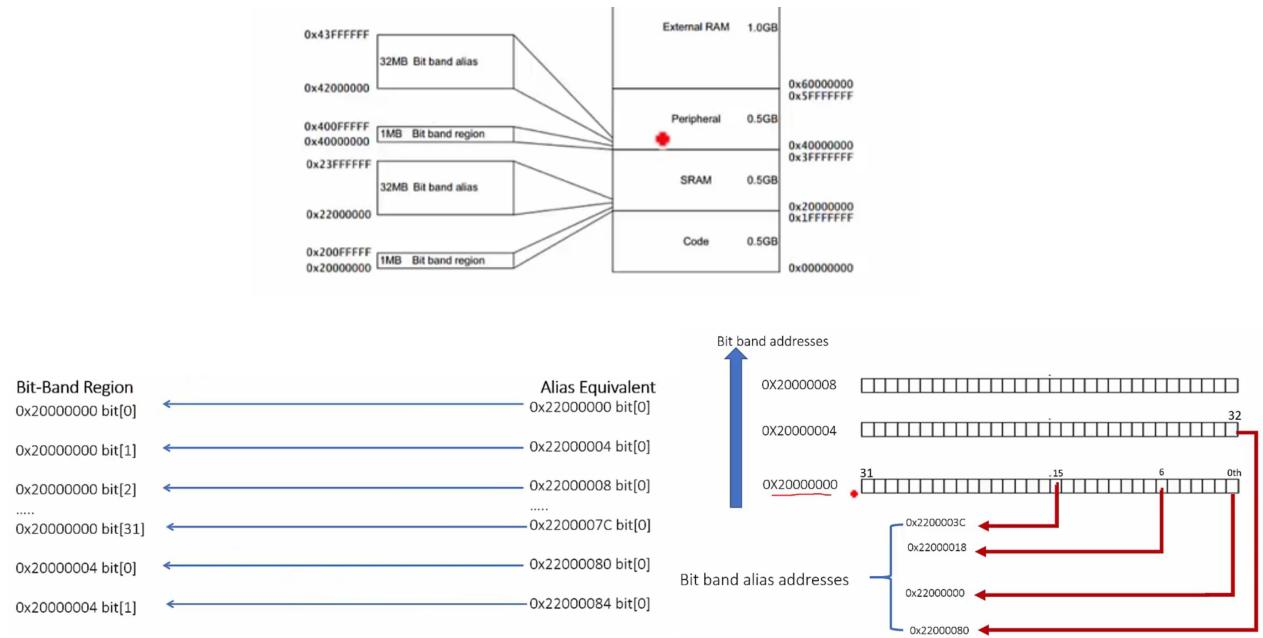

Figure 4.18: Bit banding mechanism
- How to address the bits: via the equivalent alias address as shown in Figure 4.18.